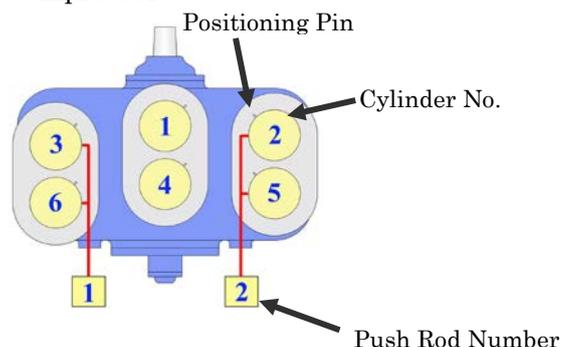

Fig. 9.16 Cylinder Number
- a . The cylinder assemblies should be mounted in the crankcase in order of cylinder number (refer to Fig. 9.16). Alternatively, mount the cylinder assemblies from the end of the crank pin portion in order. Confirm the slant direction of the cam ring, the position of the notch on the cam ring and the direction of the retaining ring once again (refer to 9.6.3, Cylinder Sleeve). Install the bolts (P/N78) on the connecting rod (P/N77).